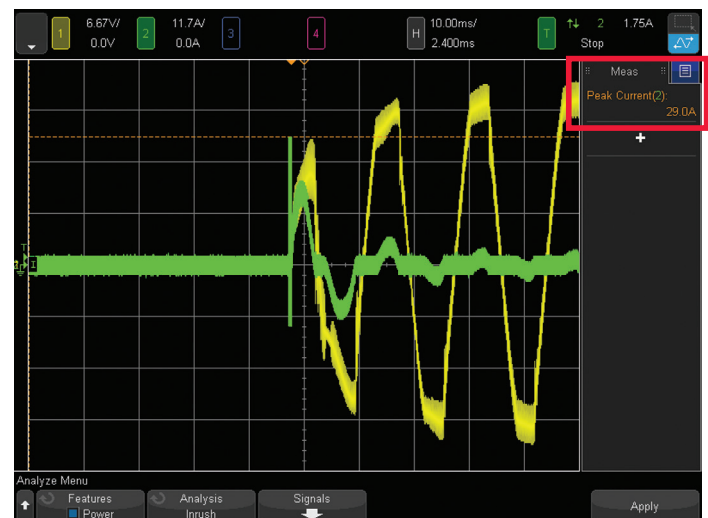

Figure 14. Inrush current measurement.
12. Repeat several times in order to obtain the worst-case peak inrush current as shown in Figure 14.